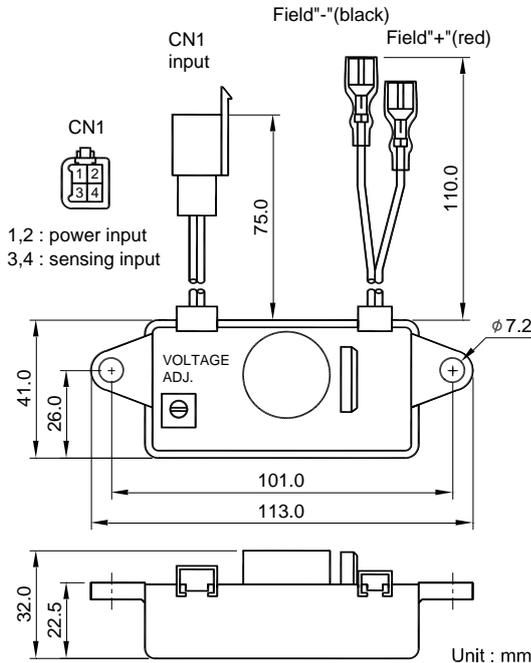

Figure 1
- Install AVR to generator field (Show as Figure 1)
1. AVR can be mounted directly on the engine, genset, switchgear, control panel, or any position that will not affect operation. For dimension reference please see Figure 1.